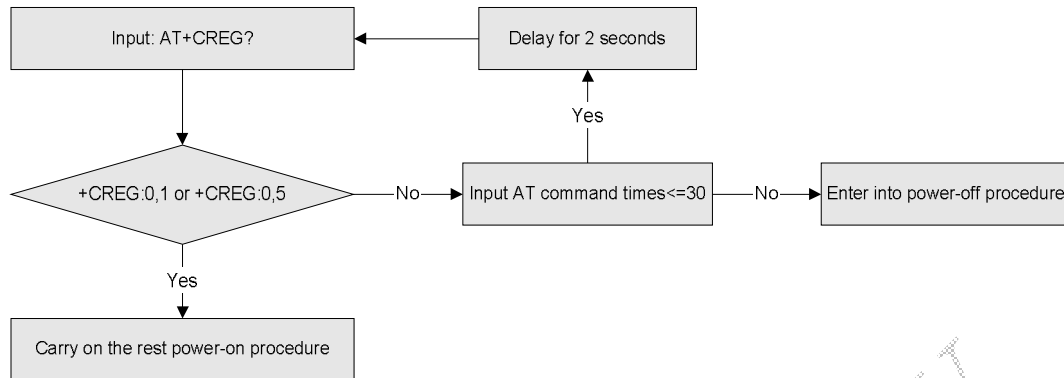

FIGURE 5 Flowchart of Testing of Network Registration
Step6 input 'AT+CREG', estimate whether the module registers the network successful or not according to the back code, 30 times every two seconds. The flowchart of this step is shown as Figure 5. Back code '+CREG:0,1' or '+CREG:0,5' are effective.